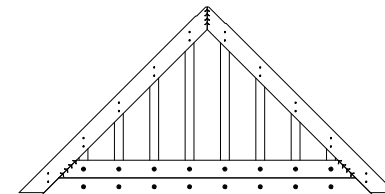

Fig 66
4. Install a second backer along the **BACKER LINE** (*Fig 66*):